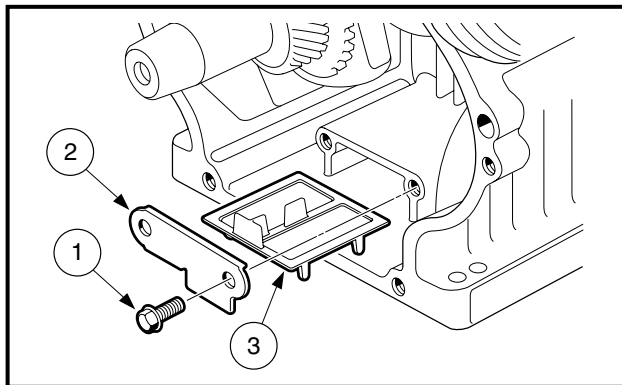

Figure 13-87 Oil Screen Removal
1. Remove the two bolts (1) to take out the oil screen plate (2) and the oil screen (3) (**Figure 13-87, Page 13-41**).